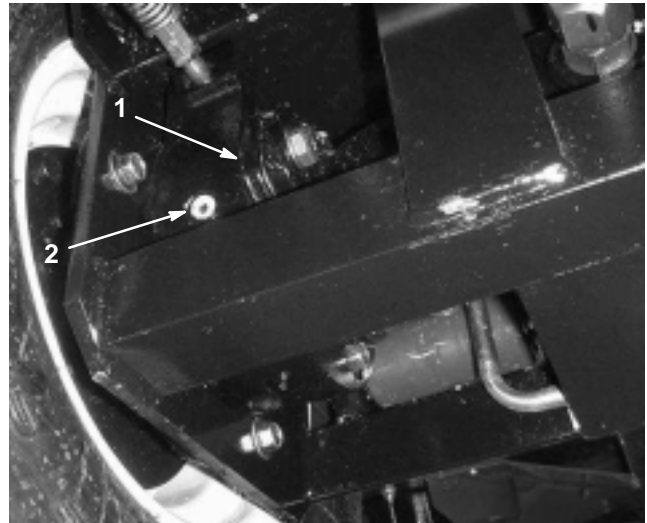

Figure 7
2. Remove the plug on the planetary (Fig. 6) and check the plug on the back side of the brake (Fig. 7). Oil should be at the bottom of the check plug hole on the back side of the brake.